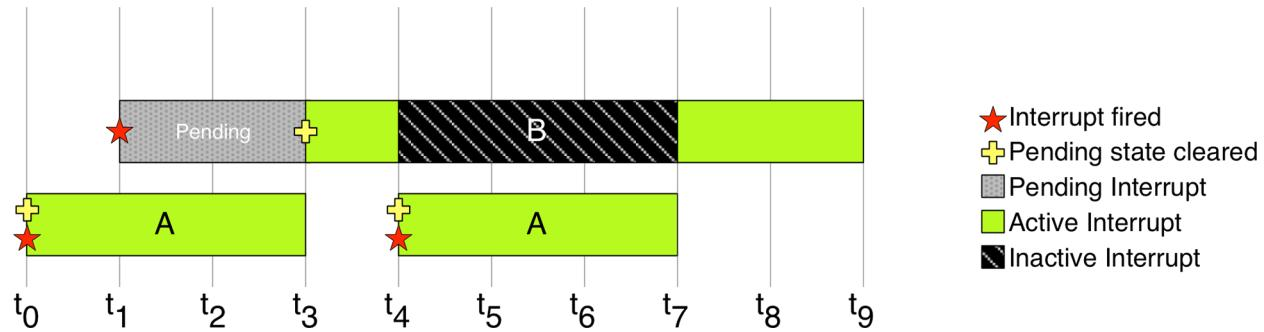

Figure 7.8: The relation between the active status and interrupts priority
**Figure 7.8** shows another important case. Here we have that the A interrupt fires, and the CPU can immediately serve it. The interrupt B fires while A is serviced, so it remains in pending state until A finishes. When this happens, the pending bit of B interrupt is cleared, and it becomes active. However, after a while, A interrupt fires again, and since it has a higher priority, B interrupt is suspended (becomes *inactive*) and the execution of A starts immediately. When this finishes, the B interrupt becomes active again, and it completes its job.